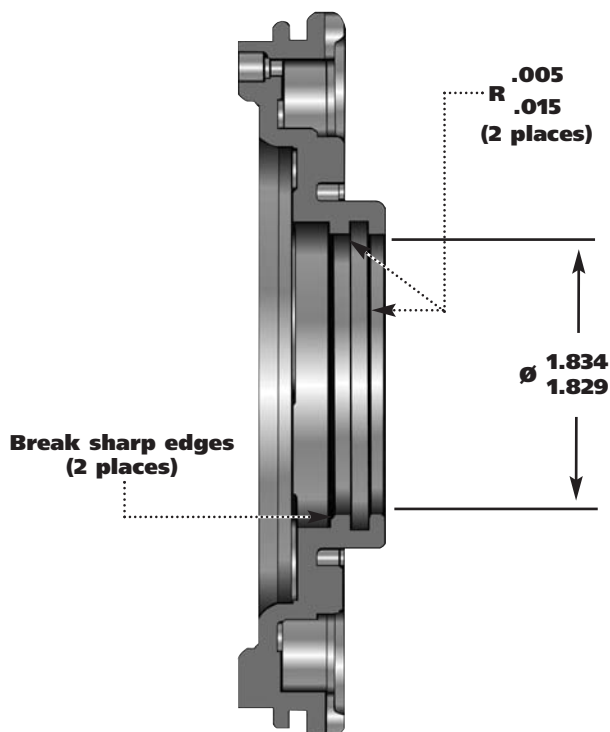

Figure 2
3. Bore the ID out $\varnothing 1.834"/1.829"$. Radius both sides of the seal groove with $R.005"/.015"$ radii. Make sure to deburr both outer edges (see Figure 2).